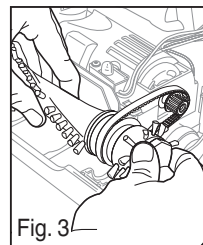

Fig. 3
- 3) Remove brush roll and belt (Fig. 3).
Remove brush roll cover. See page 4. Clear blockage from base hose and check for debris in brush roll (Fig. 3).